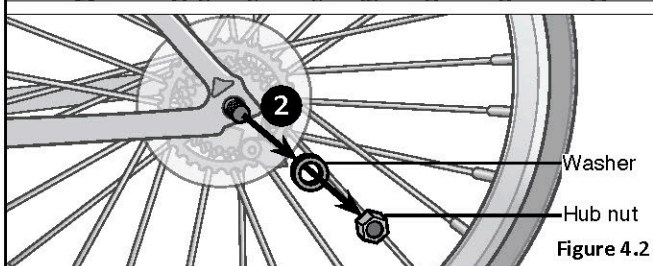

Figure 4.2
2. Using a wrench, remove the hub nut and washer from the bicycle's back wheel. **Figure 4.2**